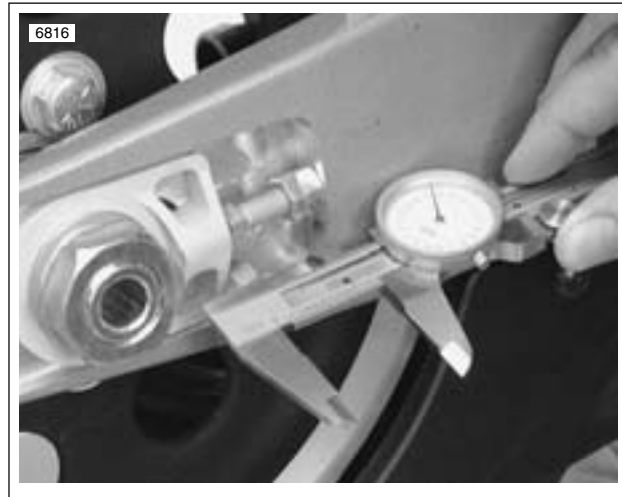

Figure 1-21. Checking Rear Wheel Alignment, Right Side Shown
1. See Figure 1-21. Measure each side from the flat of the axle carrier to the flat of the swingarm.
- c. See Figure 1-21. Repeat this step until the distance between the flat on the axle carrier and the flat of the swingarm is the same on both sides of the rear wheel and belt deflection is correct.